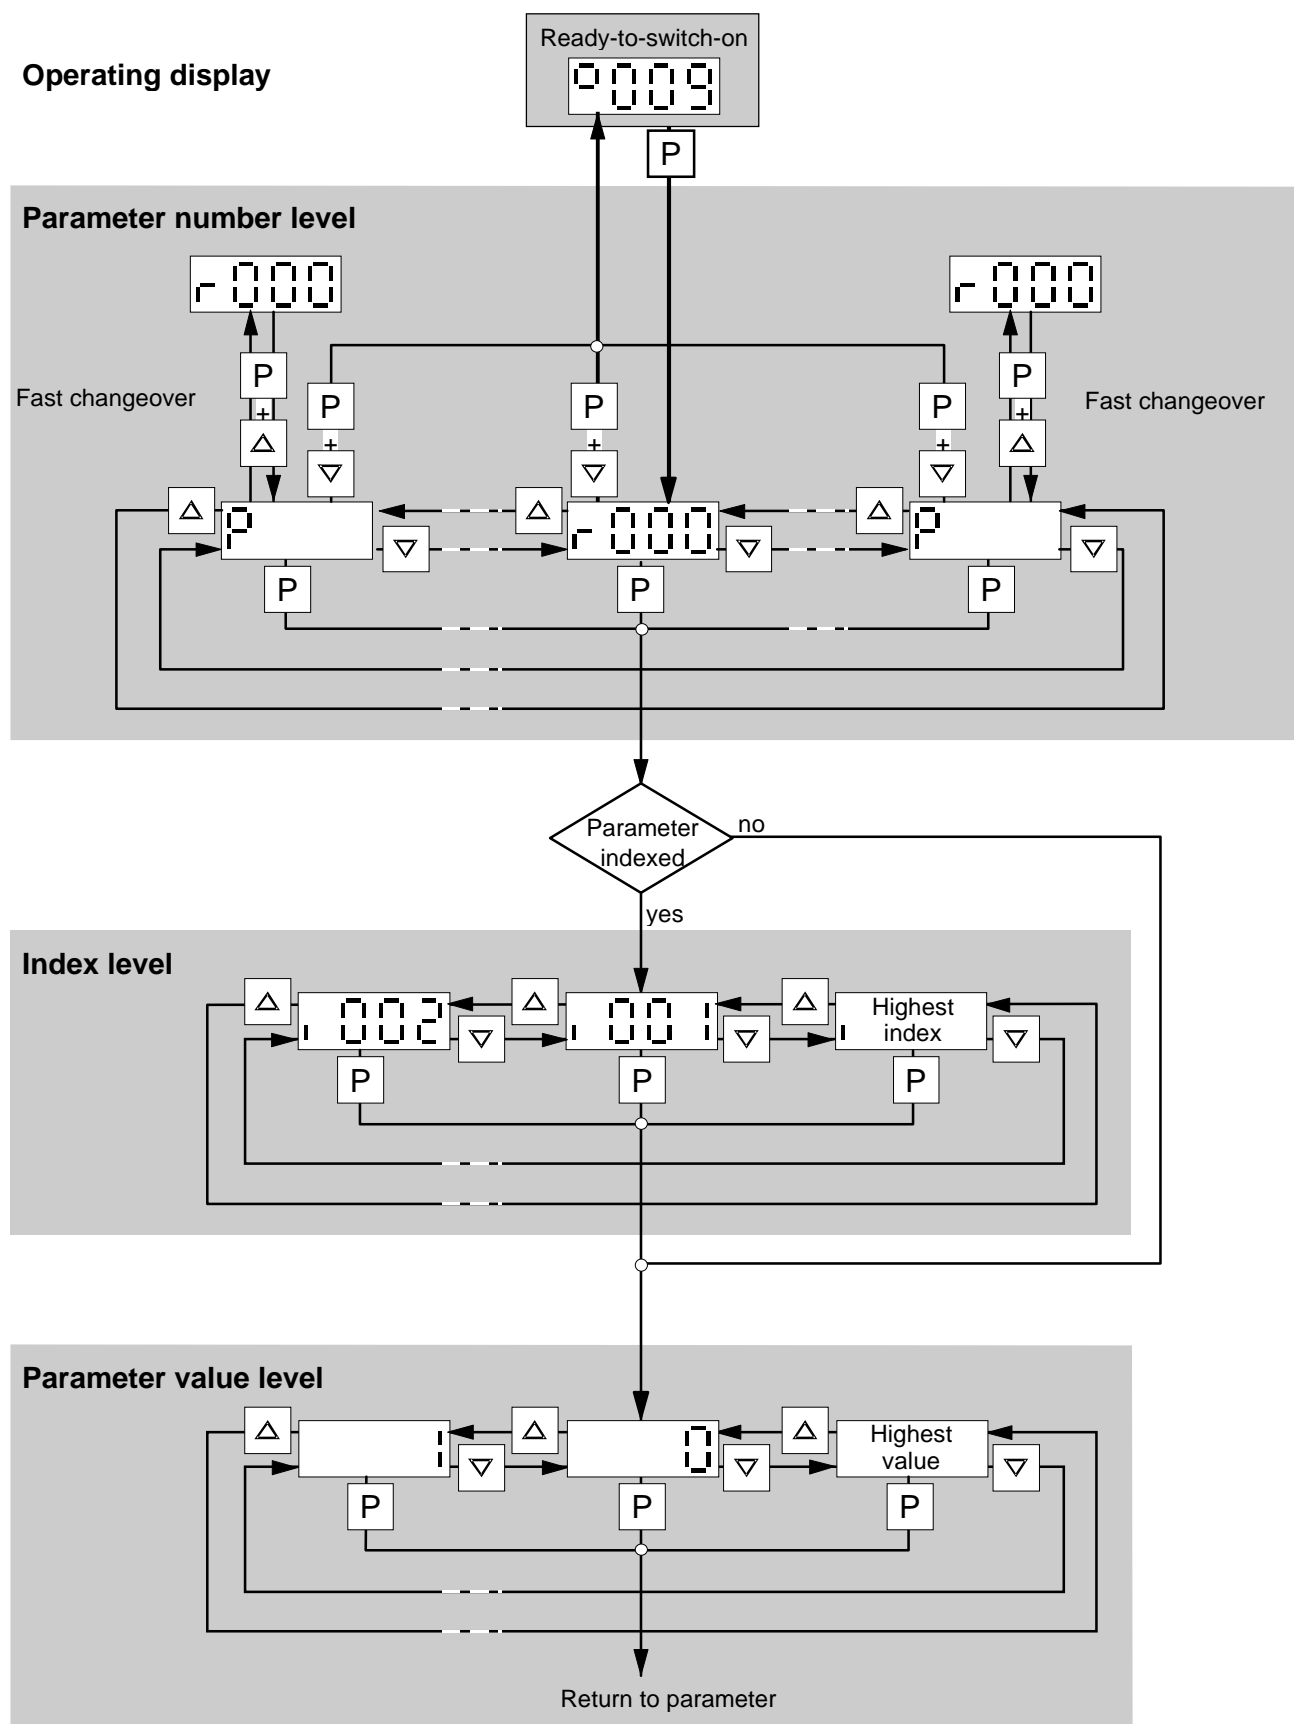
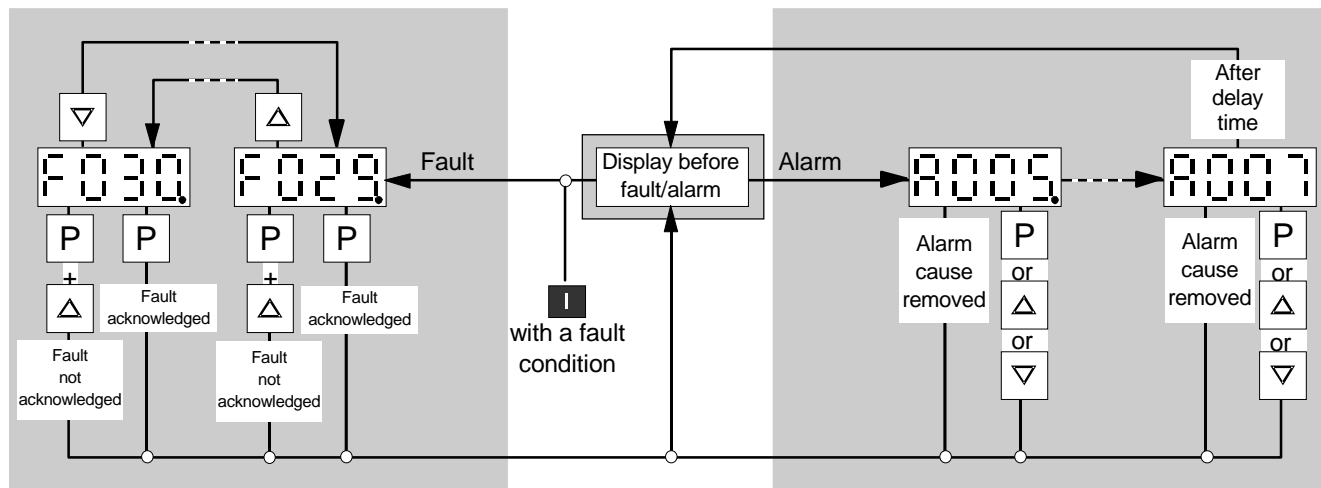

Figure 6.2 Operator control structure using the PMU
Figure 6.3 Operator control structure of the PMU for alarms and faults
1) Changeover between parameter number, index and parameter value levels (see Figure 6.2), whereby the command only becomes effective when the key is released. 2) Resetting the current fault message (see Figure 6.3) 3) In conjunction with the arrow keys <raise> and <lower>, additional functions are possible (refer to Figs. 6.2 and 6.3), whereby <P> is pressed first followed by the other key. This command becomes effective once the other key has been pressed.
As described in Section 6.3 (Figures 6.2 and 6.3), it is possible to change over from one display level to another. By pressing <P>, it is possible to change from the status display (e.g. o009) to the parameter number level in which the separate parameters can be selected via <raise> or <lower>. The selected access level (P051) and the operating state (r000, r001) determine here which parameters are displayed. All parameters are not always visible (see Chapter 5/overview of the abbreviations/footnotes 5 to 8)!
When a fault or alarm is generated, it is displayed immediately on the PMU as well as on the optional OP1 (see Section 6.3, Figure 6.3). An alarm disappears automatically from the display when the problem has been corrected. A fault message must be reset by pressing the P key on the PMU or the reset key on the OP1 after the problem has been corrected, before it is possible to return to a normal operating state.